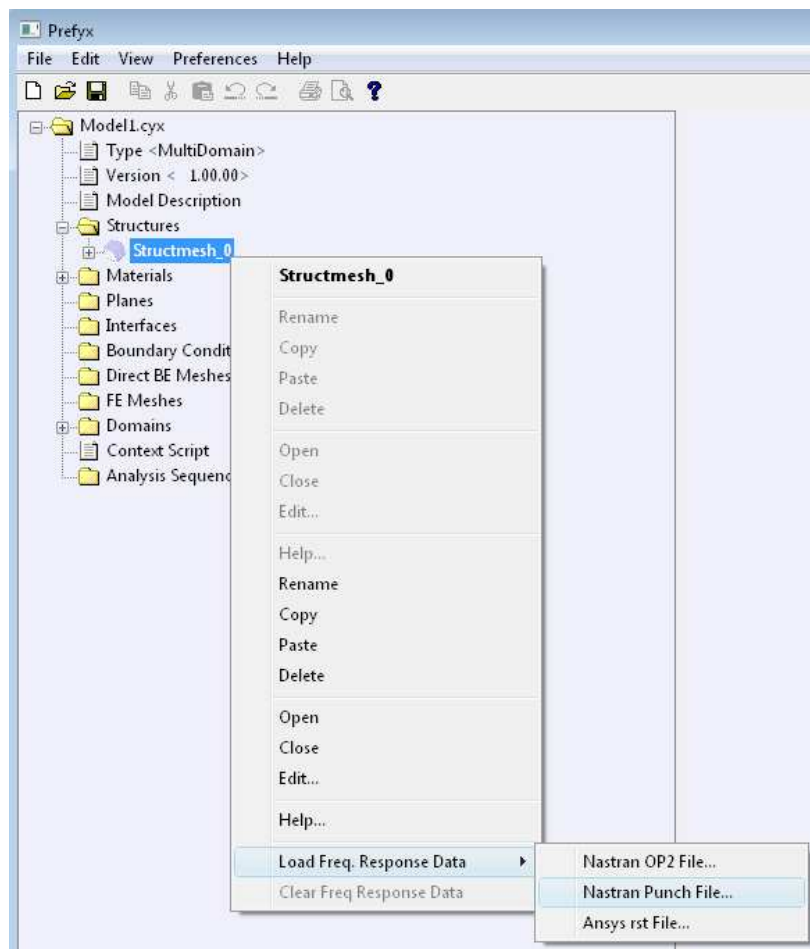

Figure 6: Load frequency response data into Coustyx.
- Right-click on **Structmesh\_0** or <Struct Mesh Name> and select: **Load Freq Response Data** > **Ansys rst File** (as shown in Figure 6). The other valid data formats from which frequency response data can be loaded into Coustyx are **Nastran OP2 File** and **Nastran Punch File...**